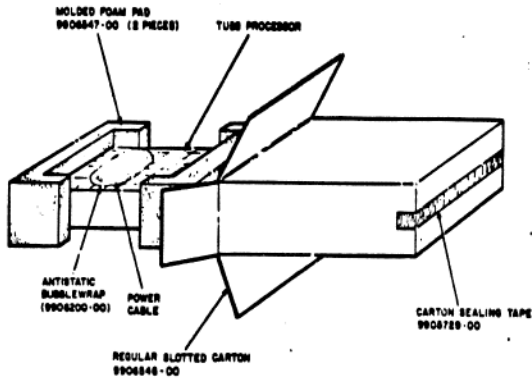

FIGURE 2
STEP	PROCEDURE (Figure 2)
5.	Now take the Power Cable, wrap it in Bubble Wrap (9906200-00), and place it over TUS8 Unit. (See Figure 2).